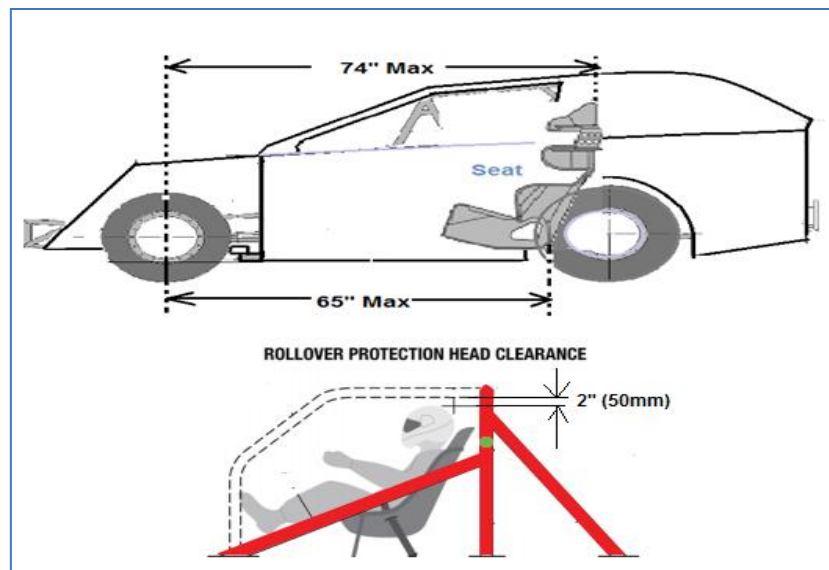

Figure 14
**20.7** Bottom rear of seat must not be positioned more than 65 inch rearward, measured from the centre of either of the front spindles (*Figure 14*).
**20.8** Seat may be tilted back for added driver head clearance; however, no portion of the seat may be set back more than 74 inches measured from the centre of either front spindle (*Figure 14*).
**20.9.** The minimum helmet clearance inside the roll cage is to be 50mm from all roll bars. Measurement is taken from the underside of the overhead roll cage bars to the top of the helmet with the driver seated and in full harness. Must be checked when the car is Daylighted for registration (*Figure 14*).